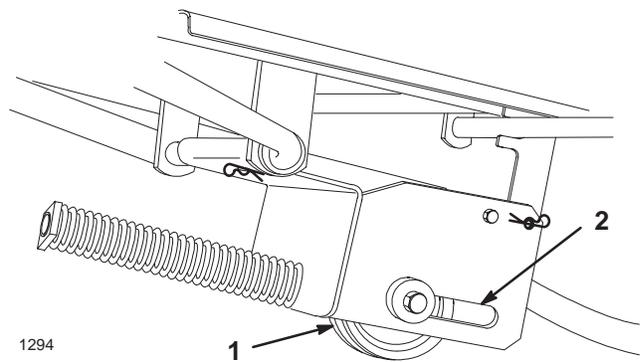

Figure 32
2. Raise and lower the snowthrower and ensure that the spring loaded idler is not hitting either end of the slot (Fig. 32). If it contacts either end of the slot, adjust the drive belt tension.
2. Pull on the spring loaded idler pulley and remove the belt from the snowthrower pulley to release tension on the belt (Fig. 32).